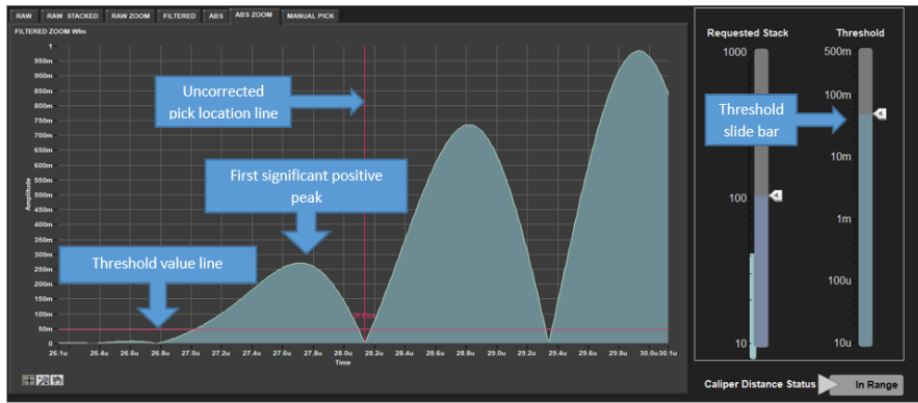

Figure 9. ABS Zoom display with threshold slide bar and uncorrected auto-pick location.
2. Go to **ABS ZOOM** tab (Figure 9): Here you see a zoomed window of the absolute (ABS) signal value. Verify that the 'auto-pick location' is at the zero crossing after the first significant wave above noise levels (not at the first arrival peak), use the **Threshold** slide bar to adjust its location. By changing the threshold value the 'auto-pick' location will change in steps and the velocity will be recalculated.